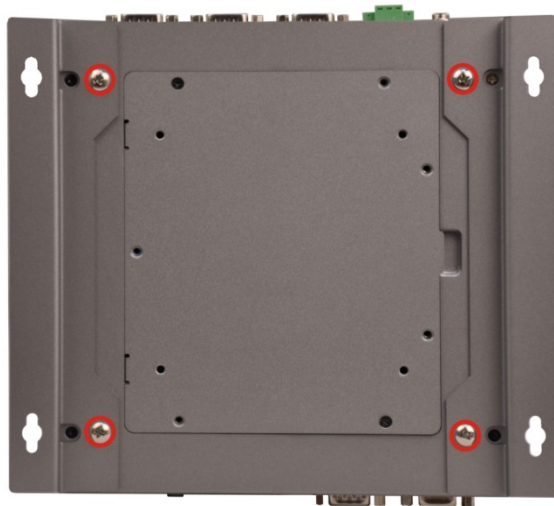

Figure 3-10: Mounting Bracket Retention Screws
- Step 2:** Align the two retention screw holes in each bracket with the corresponding retention screw holes on the bottom panel (**Figure 3-10**).
- Step 3:** Secure the brackets to the system by inserting two retention screws into each bracket (**Figure 3-10**).